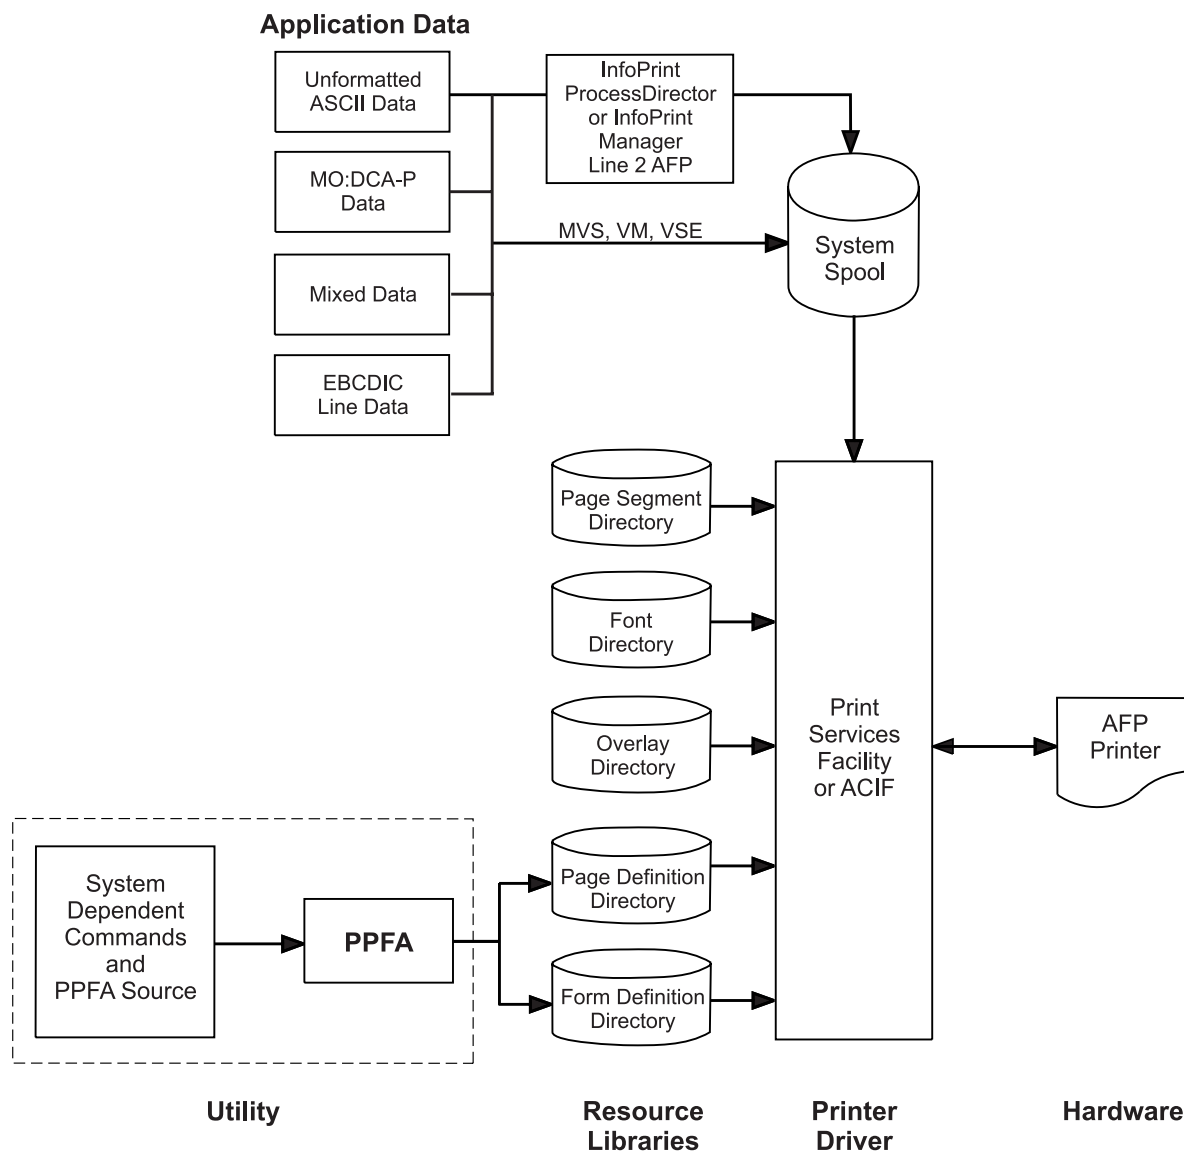

Figure 1. Form Definition and Page Definition Environment
Figure 1 on page 4 shows how form definition and page definition relate to PSF. In Figure 1 on page 4, the area inside the broken line represents steps 1 and 2. The area outside of the broken line shows how PSF merges resources with the specified print job to form a single print stream and sends it to a page printer.
**Note:** Figure 1 is a general representation for operating systems that use PPFA. Also, PSF users in the VSE, OS/390 & z/OS, and VM environments should substitute the word “Directory” for the system-specific file organization (for example, OS/390 & z/OS library).